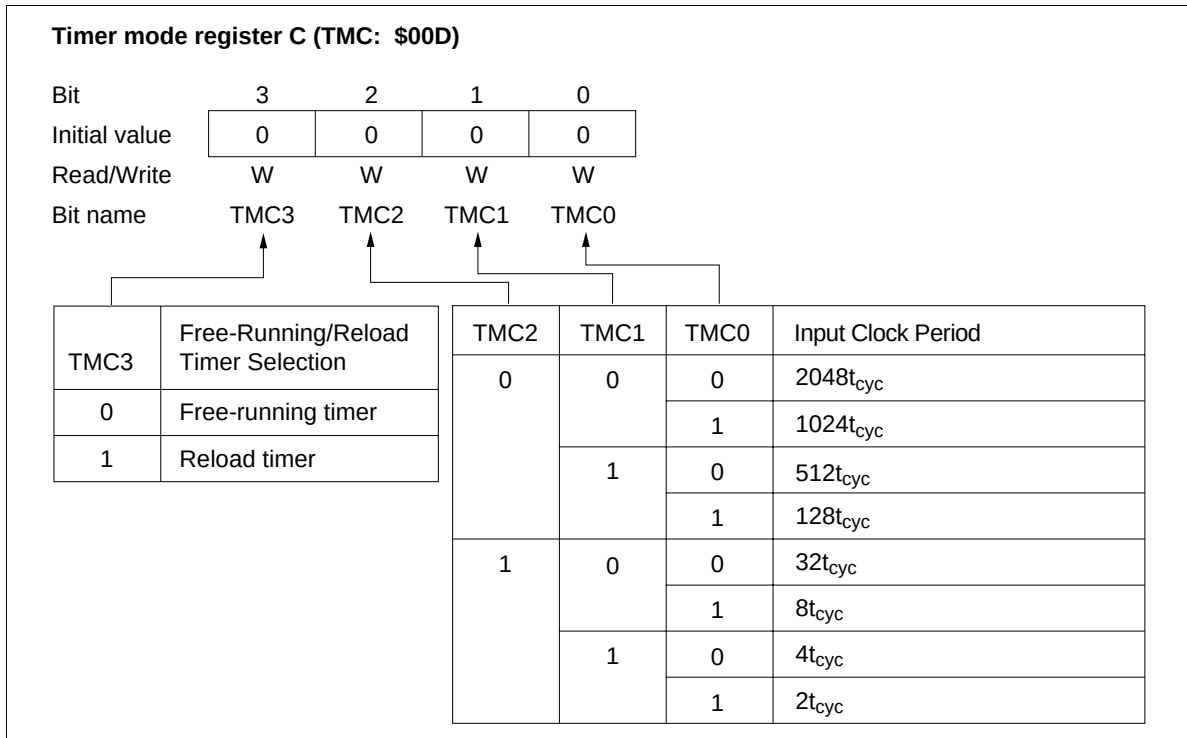

Figure 50 Timer Mode Register C (TMC)
- **Timer mode register C (TMC: \$00D):** Four-bit write-only register that selects the free-running/reload timer function, input clock source, and the prescaler division ratio as shown in figure 50. It is reset to \$0 by MCU reset.